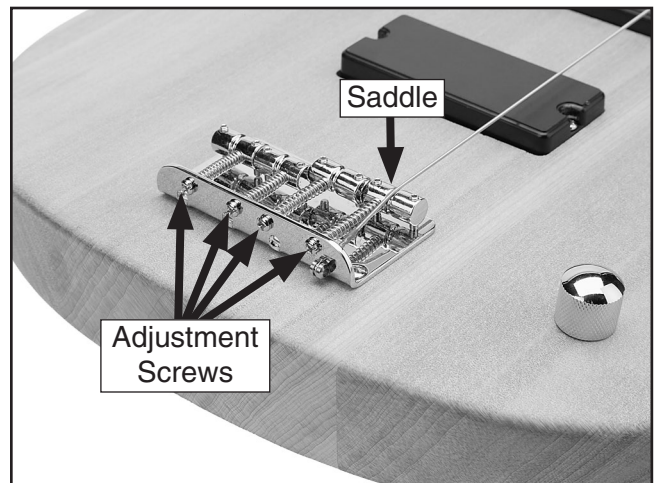

Figure 38. Saddle adjustment screws.
2. Now pluck the string while holding it fretted at the twelfth fret. If this note is sharper than the note played in **Step 1**, move the saddle away from the neck by turning the saddle adjustment screw (**Figure 38**) clockwise. If this note is flat in comparison, move the saddle toward the neck.